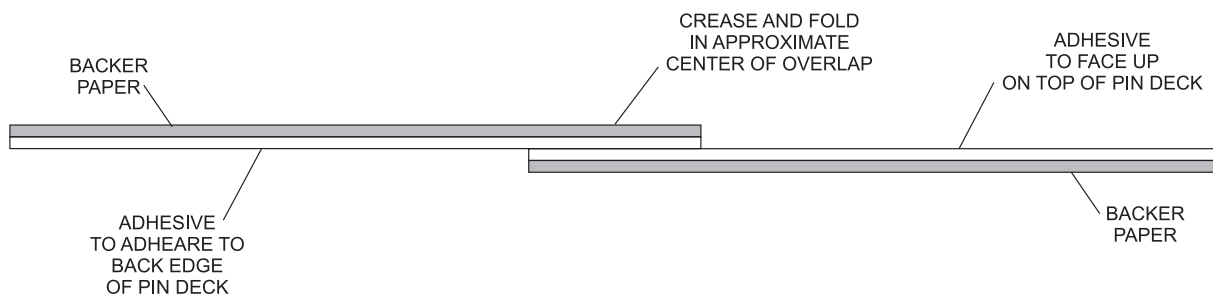

Figure 1
- b. Overlapping the tape approximately 2" (5 cm), bond the adhesive sides of the tape together and crease the tape at the midpoint of where the tape overlaps. Refer to Figure 1.